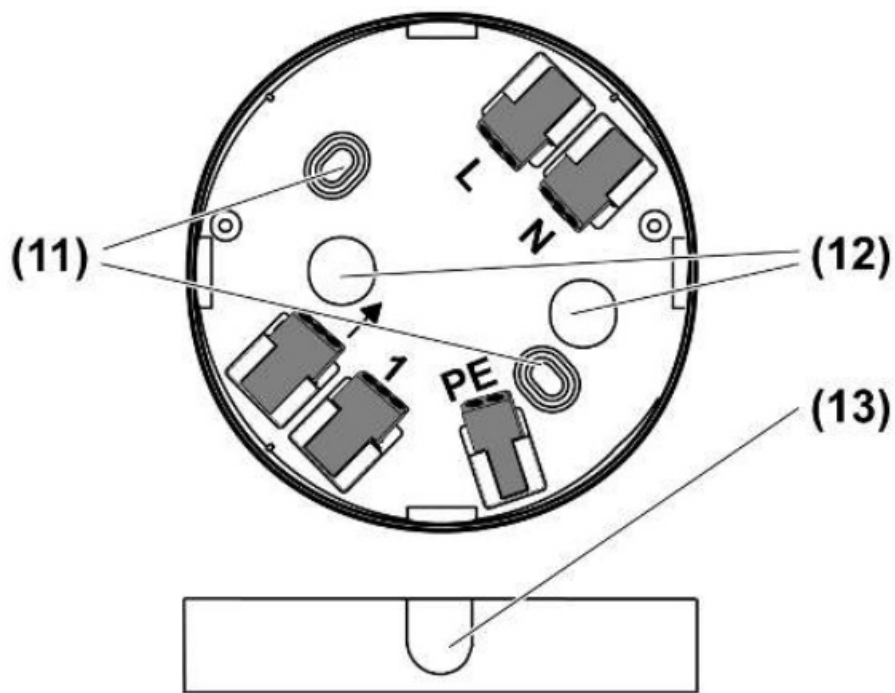

Figure 8: Connection box
- (11) Fastening holes
- (12) Cable entry, surface-mounted
- (13) Thin points for optional cable entries
- For an additional flush-mounted cable entry or surface-mounted cable entry, break out the appropriate thin point (13) (see figure 8).
- Fastening the connection box (1) through holes (11) (see figure 8). Alternatively, the device can also be mounted on a 60 mm appliance box. The screws are not included in the scope of delivery.